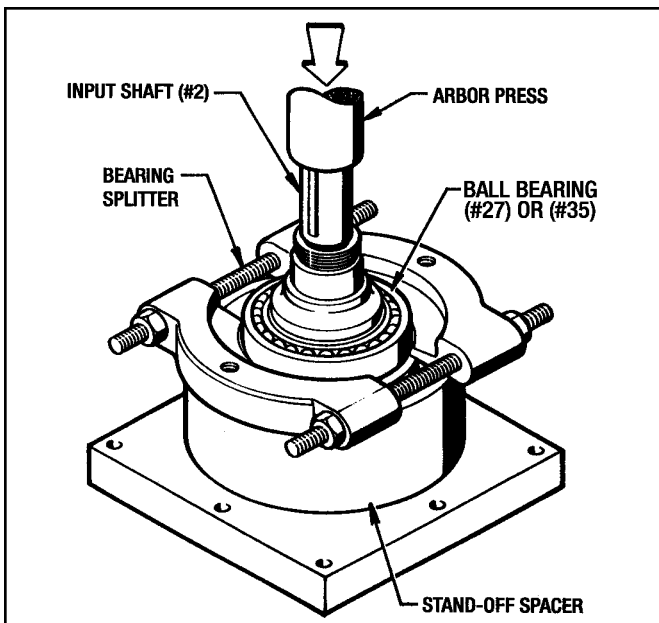

Figure 7.4 - Removing Bearing From Input Shaft
3. Use a Bearing Splitter to remove Bearing (#27) from the Input Shaft. (See Figure 7.4).
3. Use a Bearing Splitter to remove Bearing (#35) from the Input Shaft. (See Figure 7.4).
1. If the C-Face Adapter (#200) is still attached to the input housing, remove the (6) Screws (#201) and (6) Washers (#202) and remove the C-Face Adapter.
2. Remove (6) Screws (#63) and remove the Bearing Retainer (#207) and Gasket (#206). Discard the Gasket.
7. As shown in Figure 7.4, remove Bearing (#27) from the Quill Input Shaft using a Bearing Splitter.
2. Remove Bearing (#26) from the Output Shaft with a Bearing Puller or a Bearing Splitter like the one shown in Figure 7.4.
4. If Bearing (#28) has to be replaced, use a Bearing Splitter, like the one shown in Figure 7.4, to remove it.